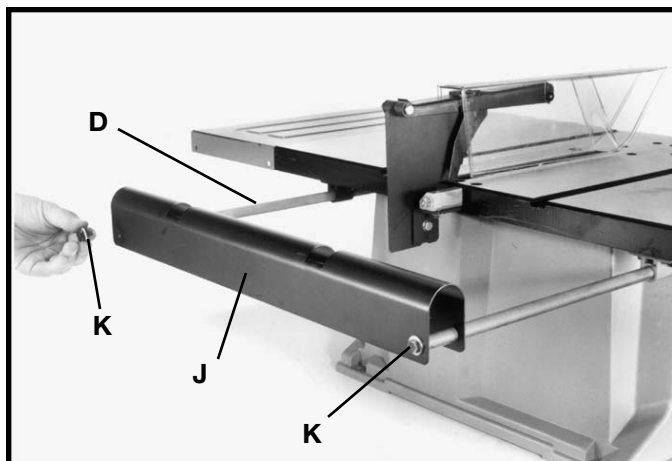

Fig. 34
4. Secure outfeed support (J) Fig. 34, to rods (D) using two 1/4-20x1/2" hex head screws and 1/4" flat washers (K) as shown.